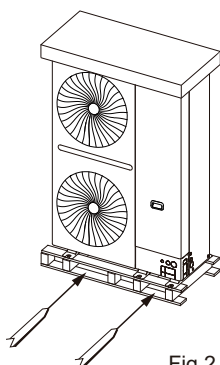

Fig.2.4
- To move the unit with a forklift, insert the forks into the opening at the bottom of the unit, as shown in Figure 2.4.